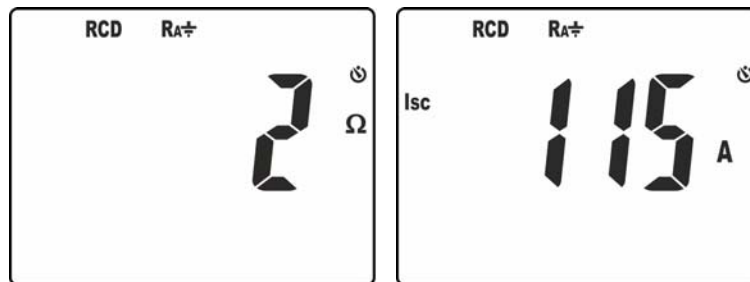

Fig. 22: Results of measurement of overall earth resistance
9. The screen in Fig. 22 – left side shows the value of overall earth resistance. Press keys $\blacktriangledown/\text{lightbulb}$ or \blacktriangle to display the value of assumed short-circuit current **Isc** (see § 9.3)